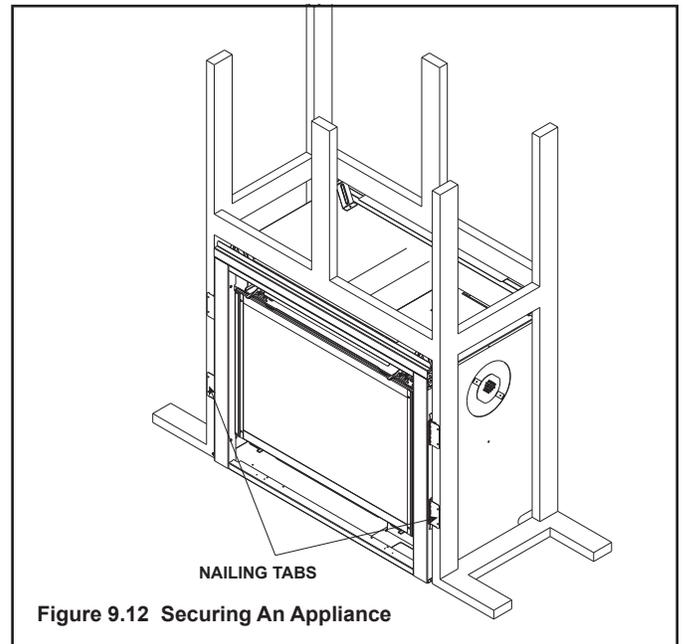

Figure 9.12 Securing An Appliance
8. Secure the appliance to the framing by using nails or screws through the nailing tabs. It is acceptable to use plumber strap to secure the unit to the framing if necessary. See Figure 9.12. Be sure to maintain all clearances to combustible material.